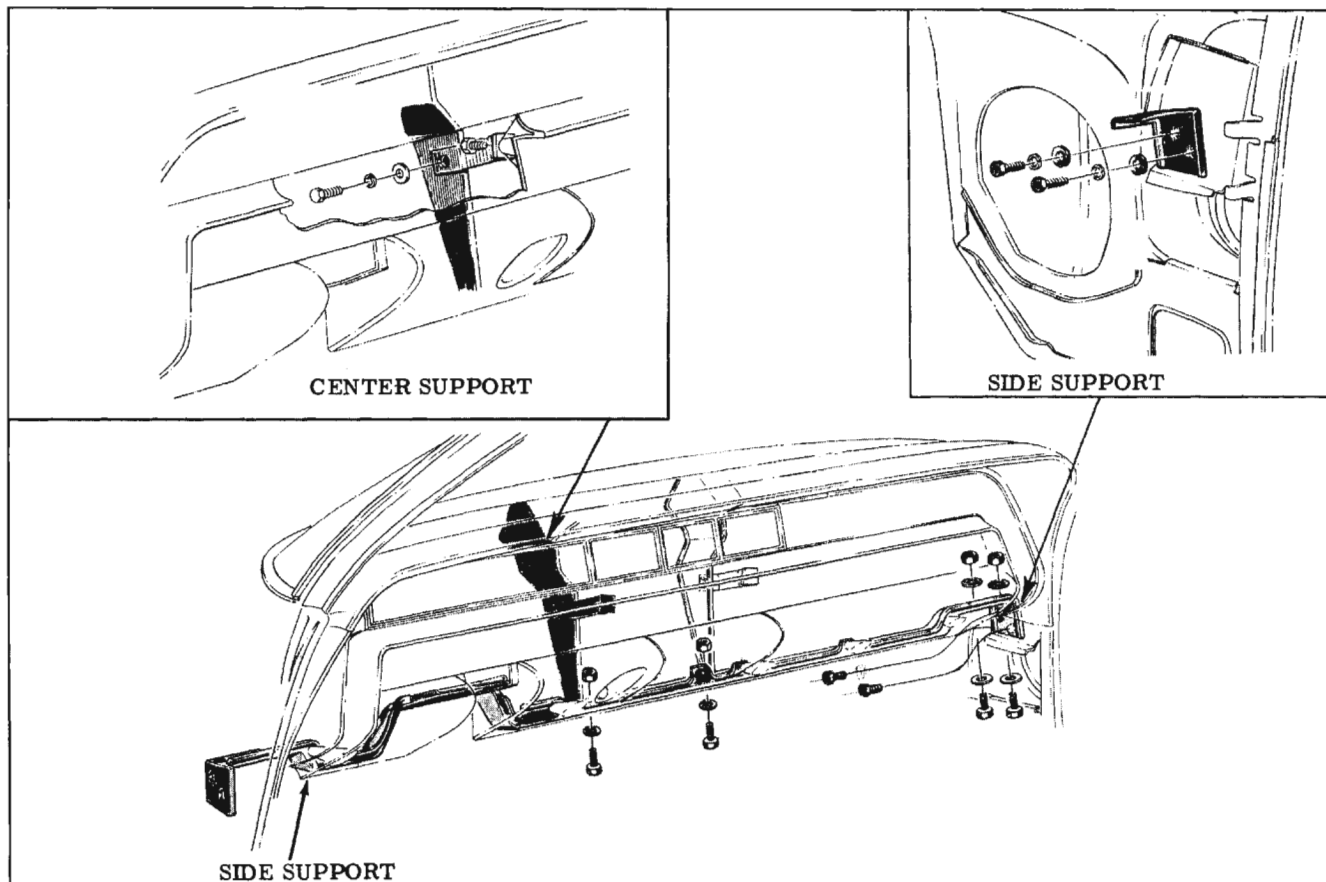

Fig. 13-1 Instrument Panel Attachment
4. Remove instrument panel attaching screws. (Fig. 13-1)